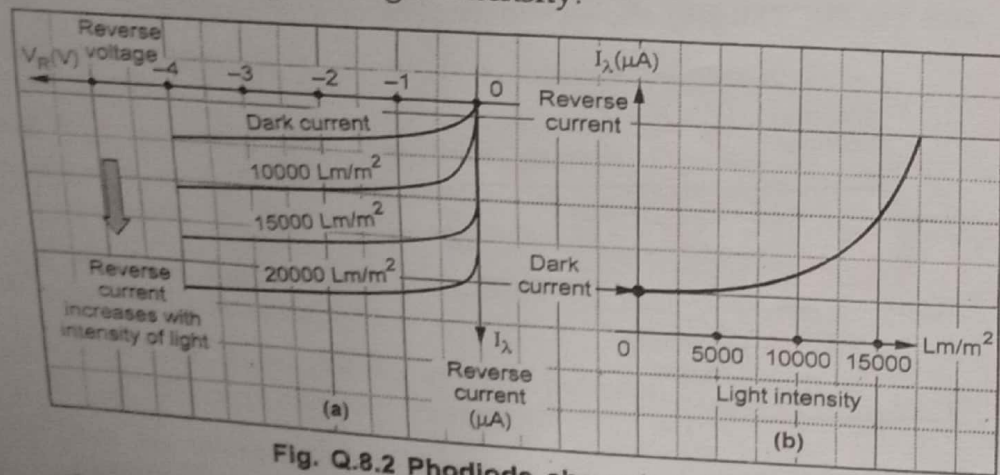

Fig. Q.8.2 Photodiode characteristics
- The Fig. Q.8.2 (a) shows the graph of reverse current and V_R for various intensities while the Fig. Q.8.2 (b) shows the graph of reverse current against light intensity.